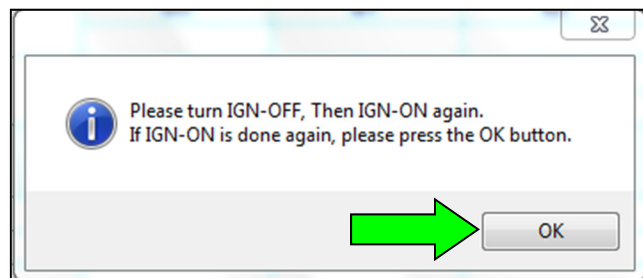

Figure 8
14. When the screen in Figure 8 appears, turn OFF the ignition, and then turn ON the ignition.
- The 75-Zero reset process will run for about another seven (7) seconds.